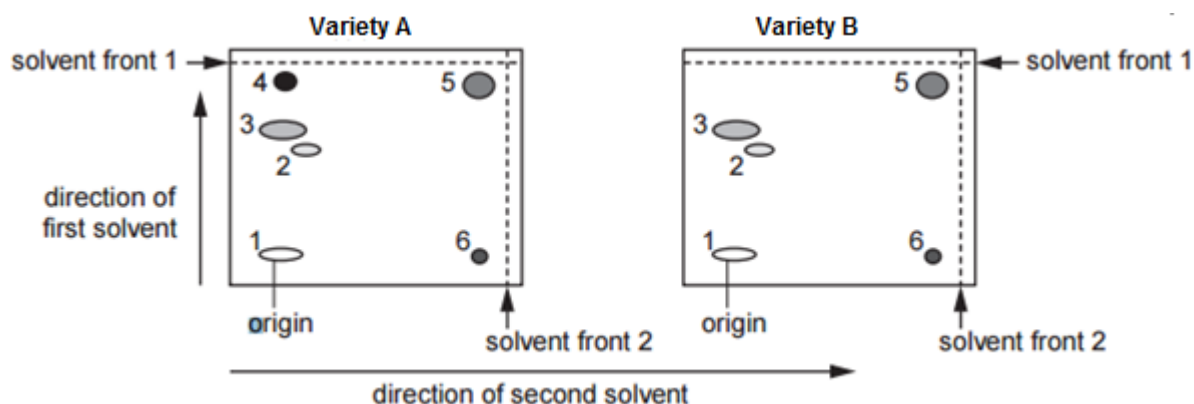

Fig. 1.3
- (h) The photosynthetic pigments of the leaves from the two varieties of plants were extracted and were separated by two-way chromatography. The pigments were first separated by one solvent and then separated again by a second solvent at right angles to the first solvent. Fig. 1.3. shows the results for the two different varieties.
Using the information in Table 1.3 and Fig. 1.3: